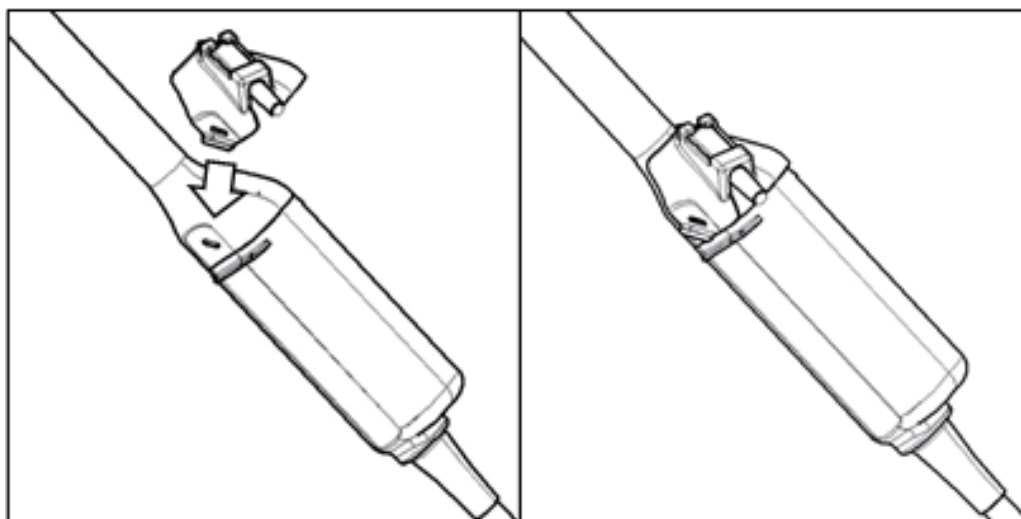

Figure 7 How to attach Magnetic Position Sensor Attachmen
- (3) Attach the magnetic position sensor attachment to the probe as shown in Figure 7.